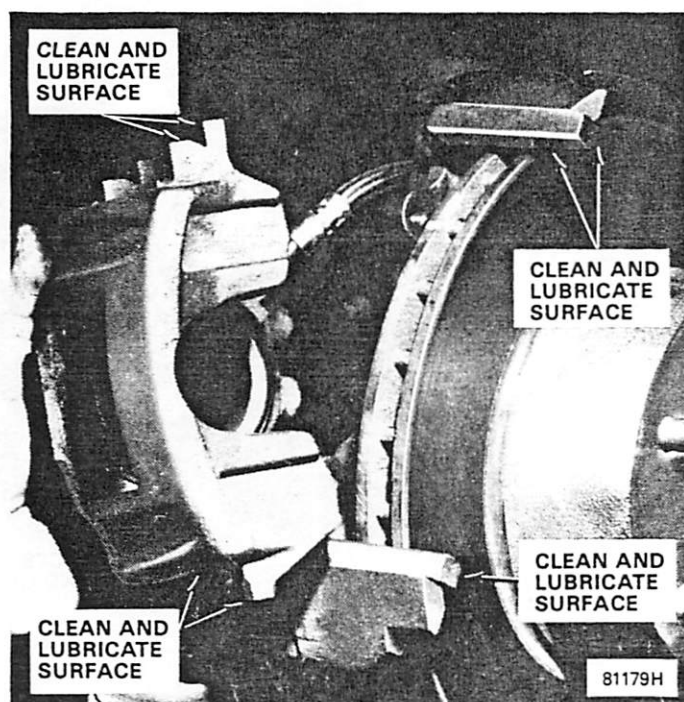

Fig. 2G-50 Caliper and Anchor Plate Abutment Surfaces
(4) Install caliper over rotor and in anchor plate (fig. 2G-47).